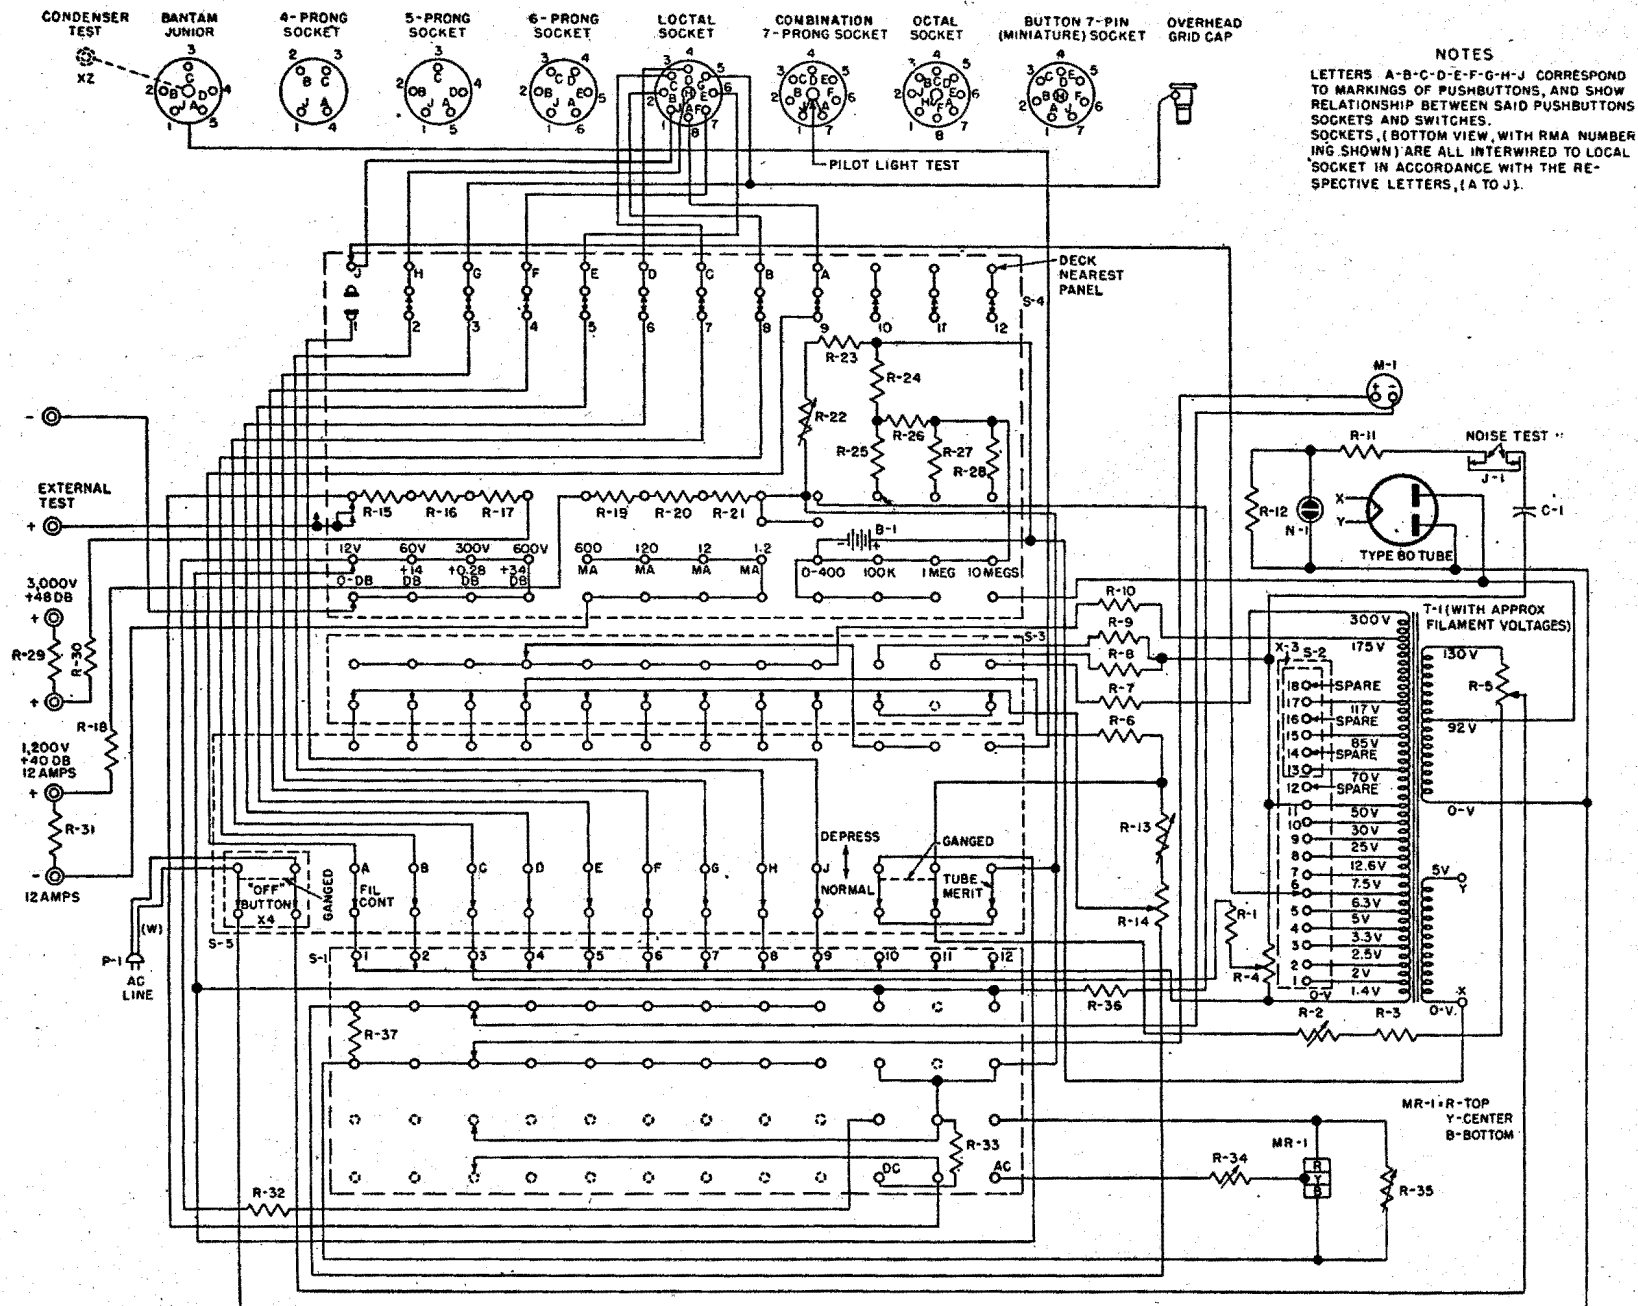

Figure 63. Test Set I-157-A, schematic diagram.
56. Test Set I-157-A (Tube and Set Tester, Precision Model 920P), TM 11-1209 (fig. 63).
- (4) The readings of Test Set I-157-A should agree with those of the standard d-c meter within plus or minus 5 percent.
- (5) If the readings disagree by more than 5 percent, check the values of resistors R15, R16, R17, R29, R30, R32, and R33 (fig. 63). The values should be accurate within plus or minus 1 percent. Resistor R32 shunts the meter for all d-c voltage ranges. *Do not adjust R32 unless all d-c voltage ranges are off calibration by the same percentage.*
- (1) Set control A to the AC position.
- (2) Repeat the procedure outlined in c(2) through (4) above.
- (3) If the readings disagree by more than plus or minus 5 percent, check the values of resistors R34 and R35 (fig. 63). Adjust R34 to calibrate the 12-volt range. *Do not adjust R35 unless all a-c ranges are off calibration by the same percentage.*
e. Checking Current Ranges (DC).
- (1) Set control A to the DC position.
- (2) Plug the test leads into the EXT. TEST jacks for all current ranges except the 12-ampere range; for the 12-ampere range, plug the leads into the separate pin jacks, + and -12 AMPS.
- (3) Set the range switch and apply the proper current from Test Set TS-682/GSM-1 to check the accuracy of the following ranges at full scale: 1.2, 12, 120, and 600 ma. Leave the range switch in the 600 ma position, and change the test leads to the 12-ampere position. Apply 12 amperes from the standard, and check the meter for accuracy.
- (4) The readings should be accurate within plus or minus 5 percent. If they do not satisfy this tolerance, check the value of resistors R18 through R21 and R31 (fig. 63). The values of these resistors should be accurate within plus or minus 1 percent. Adjust R31 to calibrate the 12-ampere range; R18 for the 600-ma range; R19 for the 120-ma range; R20 for the 12-ma range; and R21 for the 1.2-ma range.
f. Checking Resistance Ranges. Check the low-resistance scale (400 ohms) ((1) through (4) below); then check the high-resistance scales ((5) through (10) below).
- (4) The meter reading should be accurate within plus or minus 5 percent at mid-scale. If the reading is not within this tolerance, check the values of resistors R23 and R36 (fig. 63). Resistor R23
- (5) Set control F to the 100M position.
- (6) Connect the test leads together, and rotate control C to bring the meter pointer to exactly full-scale deflection.
- (7) Apply the test leads across a resistor whose value is within plus or minus 1 percent or half-scale value of the 100M range. The meter should read within plus or minus 5 percent of the value of the applied resistance. If an error in excess of plus or minus 5 percent exists, check the values of resistors R24 through R26 (fig. 63). The values of these resistors should be accurate within plus or minus 1 percent. Adjust R25 to calibrate the 100M range.
- (8) Check the 1 MEG resistance range as outlined in (5) through (7) above, use appropriate resistance values. If in-
accuracies are in excess of plus or minus 5 percent check the value of resistor R27 (fig. 63).
- (9) Voltage for the 10 MEG range is received from the internal power supply of the tester; therefore, the cord must be plugged into a suitable source of power. Full-scale deflection is obtained by adjusting the line control.
- (10) Apply half-scale resistance value plus or minus 1 percent and check the meter indication for accuracy. Calibrate if necessary, by adjusting R28 (fig. 63).
g. Checking Tube Tester. Follow the procedure given in paragraph 55b(1) through (3).